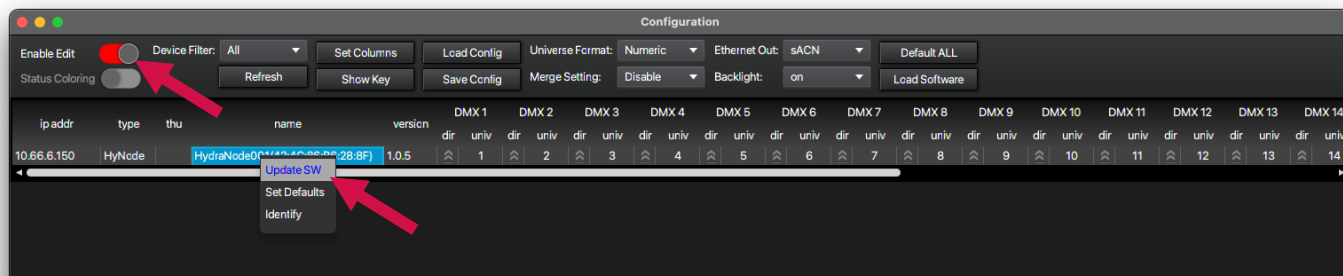

Figure 2 Enable Edit and Update SW
- Step 5. Right-click on the device name and select Update SW; see Figure 2.